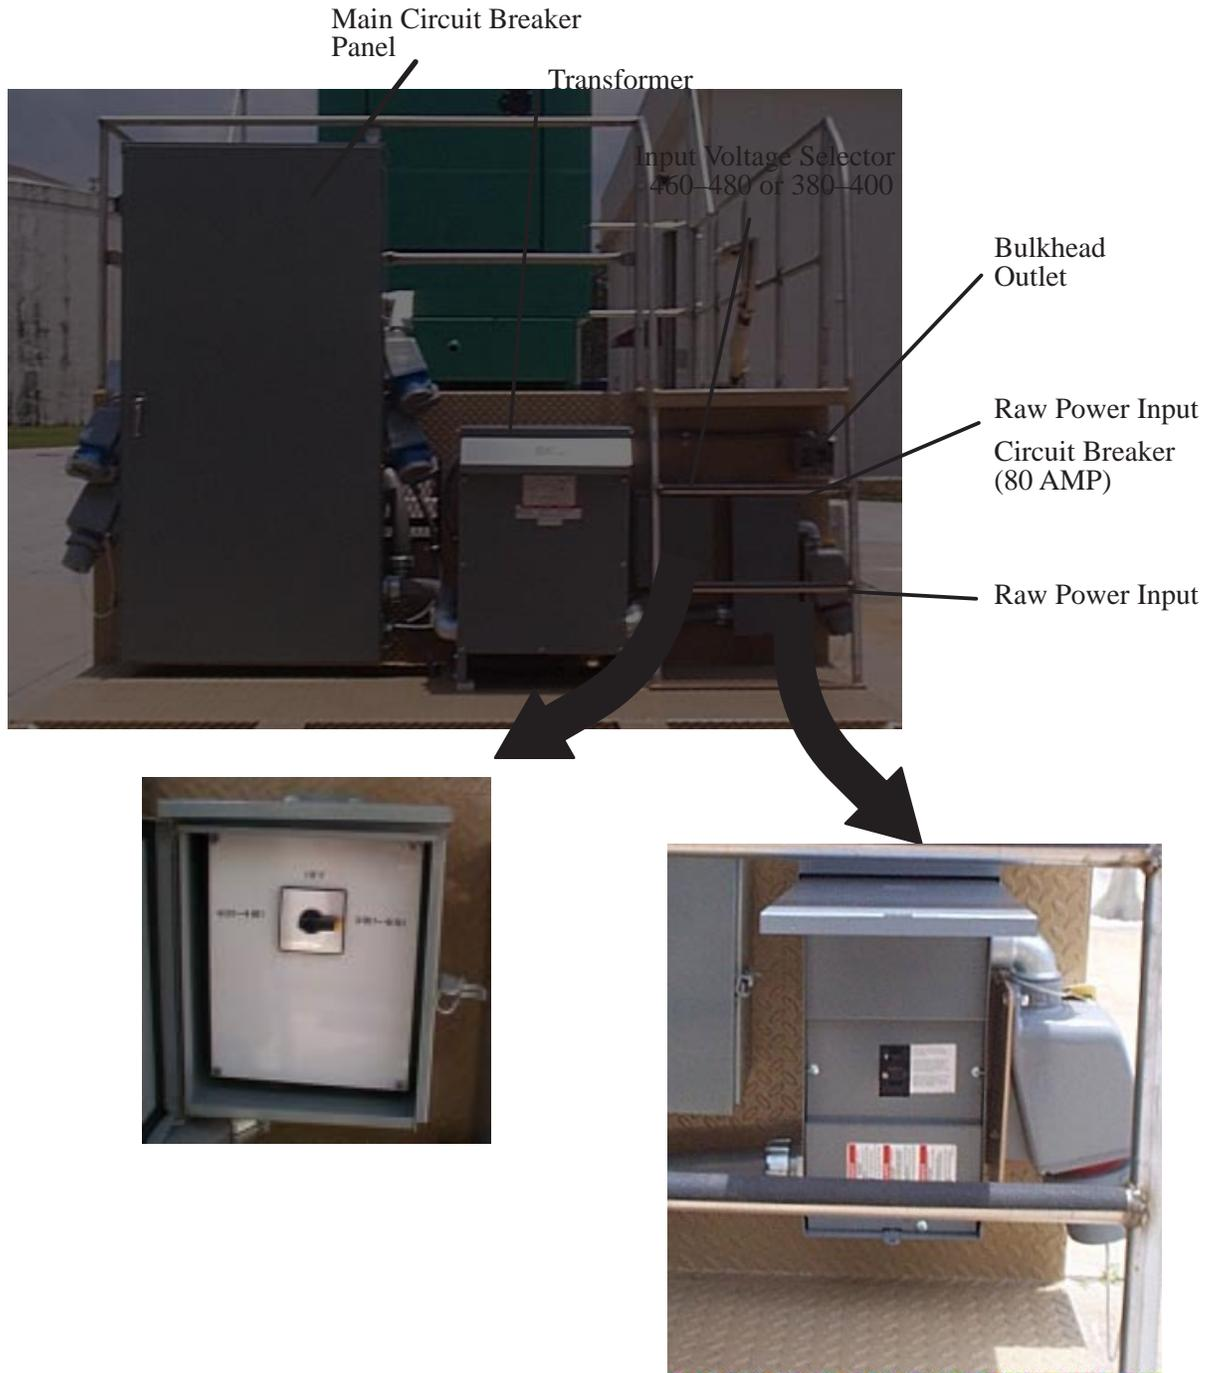

Figure 1-9. Power Distribution System Components Location
2. The Voltage input selector is set to the proper input voltage, refer to callout (1) of Figure 1-9.
3. The Raw power input circuit breaker is on, Refer to callout (2) of Figure 1-9.